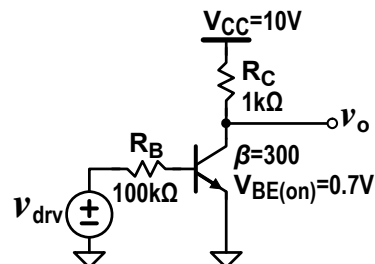

Figure 3. Switching circuit
- For the circuit given in Figure 3, derive an expression for  $v_O = v_C$  as a function of  $v_{drv}$ . Specify the  $v_{drv}$  levels where the transistor turns off completely ( $i_C = 0$ ) and it goes into saturation ( $i_C < \beta i_B$ ).
**3.a)** Build the circuit given in Figure 3. Use a pulse waveform as  $v_{drv}$  that changes from **0 V** to **10 V** in **1 ms** (i.e. PULSE(0 10 0 1m 1u 1m 3m)).